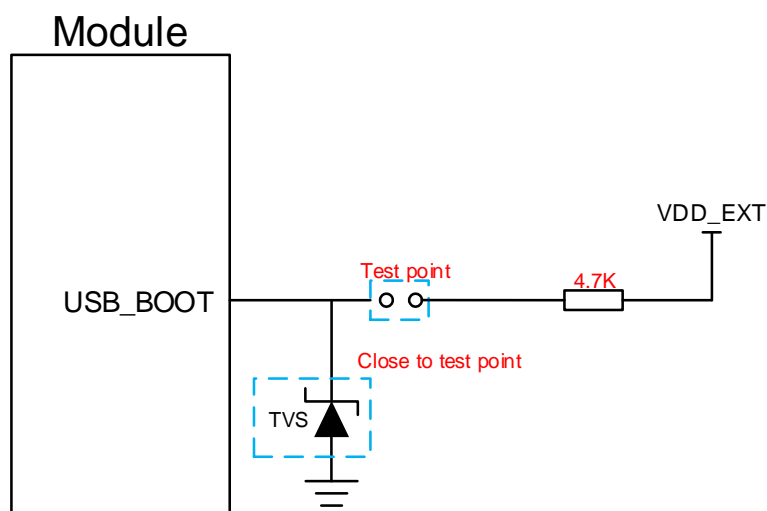

Figure 29: Reference Circuit of USB_BOOT Interface
2. When using MCU to control the module to enter the forced download mode, follow the above timing sequence. It is not recommended to pull up USB_BOOT to 1.8 V before powering up VBAT. Short the test points as shown in **Figure 29** can manually force the module to enter download mode.